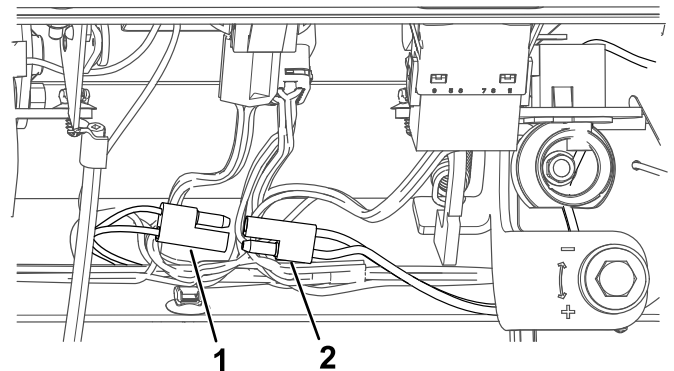

Figure 7
- **Machines without any electric accessories**—connect the port wire harness to the machine wire harness (Figure 7).